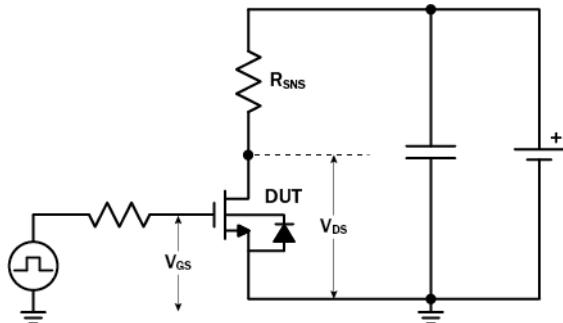

Figure 17. Dynamic $R_{DS(on)}$ Test Circuit
- a. Dynamic on-resistance; see Figures 17 and 18 for test circuit and conditions